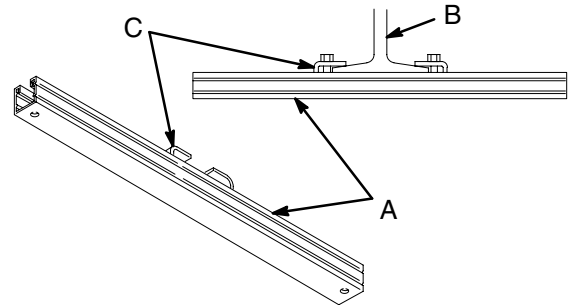

Fig. 4
1. Line up the four holes on the hose reel mounting base with the holes near the ends of the mounting brackets (A) (see Fig. 4), and securely bolt the hose reel to the mounting brackets.
2. Position and securely tighten the adjustable clamps (C) of the mounting brackets on the flanges of the I-beam (B).